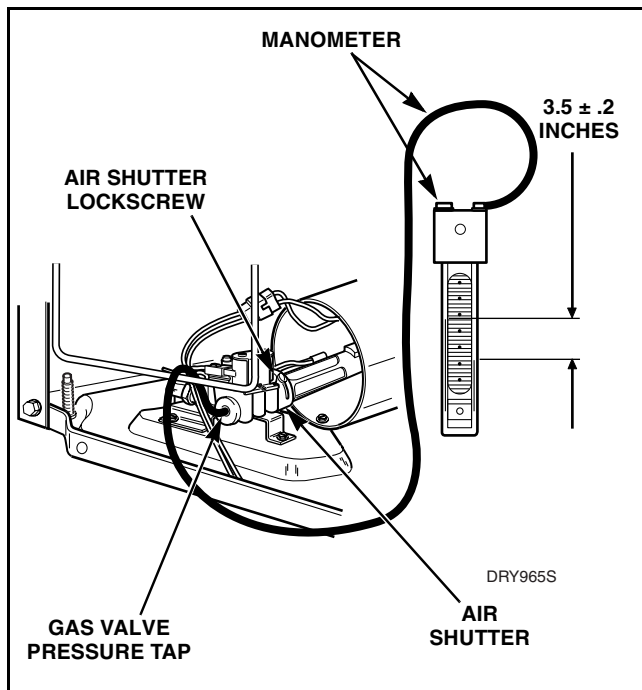

Figure 50
- Connect a “U” tube manometer (or similar pressure gauge) to the pressure tap. Refer to *Figure 50*.
- Start dryer, pressure should be $3.5 \pm .2$ inches ($8.89 \pm .508$ cm). Refer to *Figure 50*.
- (1) Loosen air shutter lock screw. Refer to *Figure 50*.
- (2) Turn air shutter to the right or left as necessary to obtain proper flame intensity. Refer to *Figure 50*.
- (3) After air shutter is adjusted for proper flame, tighten air shutter lock screw firmly.